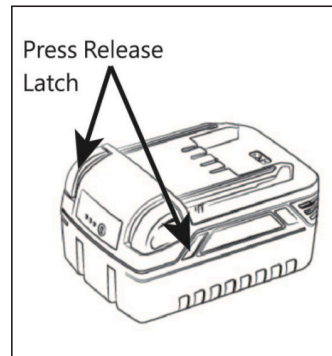

FIGURE 5
2. Press the battery release latch/button and slide battery out of slot in the direction shown. [Figure 5 & 6]